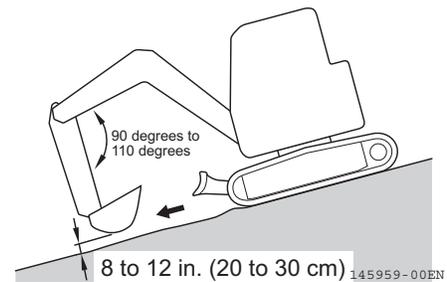

Fig. 3-45
1. Go down slopes at low speed, using the travel levers and accelerator lever to control your speed. When going down a slope, drive the machine at low engine speed and position the implement as shown in the figure on **Fig. 3-45**.